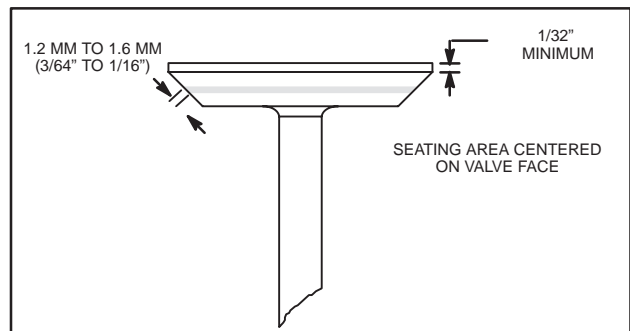

Fig. 17 – Valve Dimensions
5. Valve faces may be resurfaced to 30°. See Fig. 17 for dimensions for valves. Lap valves and seats with valve lapping tool, #19258 and valve lapping compound, tool #94150.